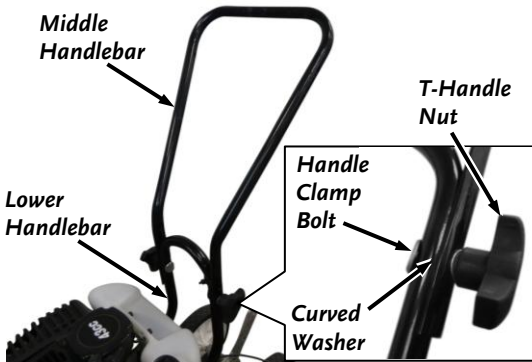

Figure 2
2. Assemble the Middle Handlebar to the Lower Handlebar (already attached to the machine) using two T-Handle Nuts, two Handle Clamp Bolts and two Curved Washers (**Figure 2**). The Middle handlebar can be installed in high or low position.